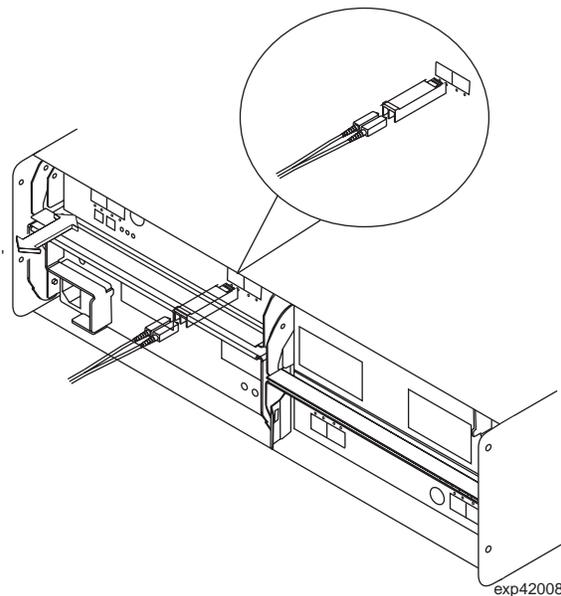

Figure 32. Installing an SFP module and LC-LC cable in a supported DS4000 storage subsystem
2. Connect an LC-LC fiber-optic cable into the SFP module, as shown in Figure 32 on page 46.
Note: Figure 32 is for illustrative purposes only. The actual SFP module on your particular DS4000 storage subsystem might appear differently than the one shown in the figure.